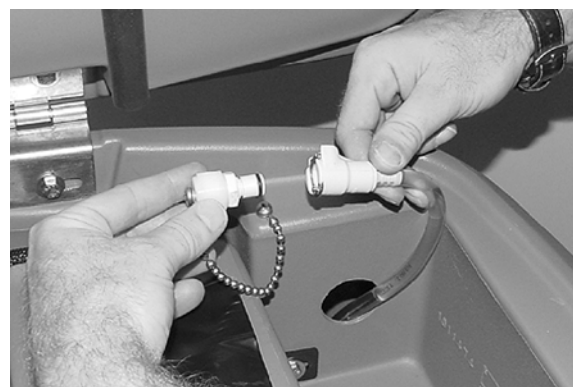

FIG. 13
3. When the supply hose is not in use, make sure to connect it to the storage plug (Figure 13). This will prevent the FaST system from drying out and clogging up the supply hose.